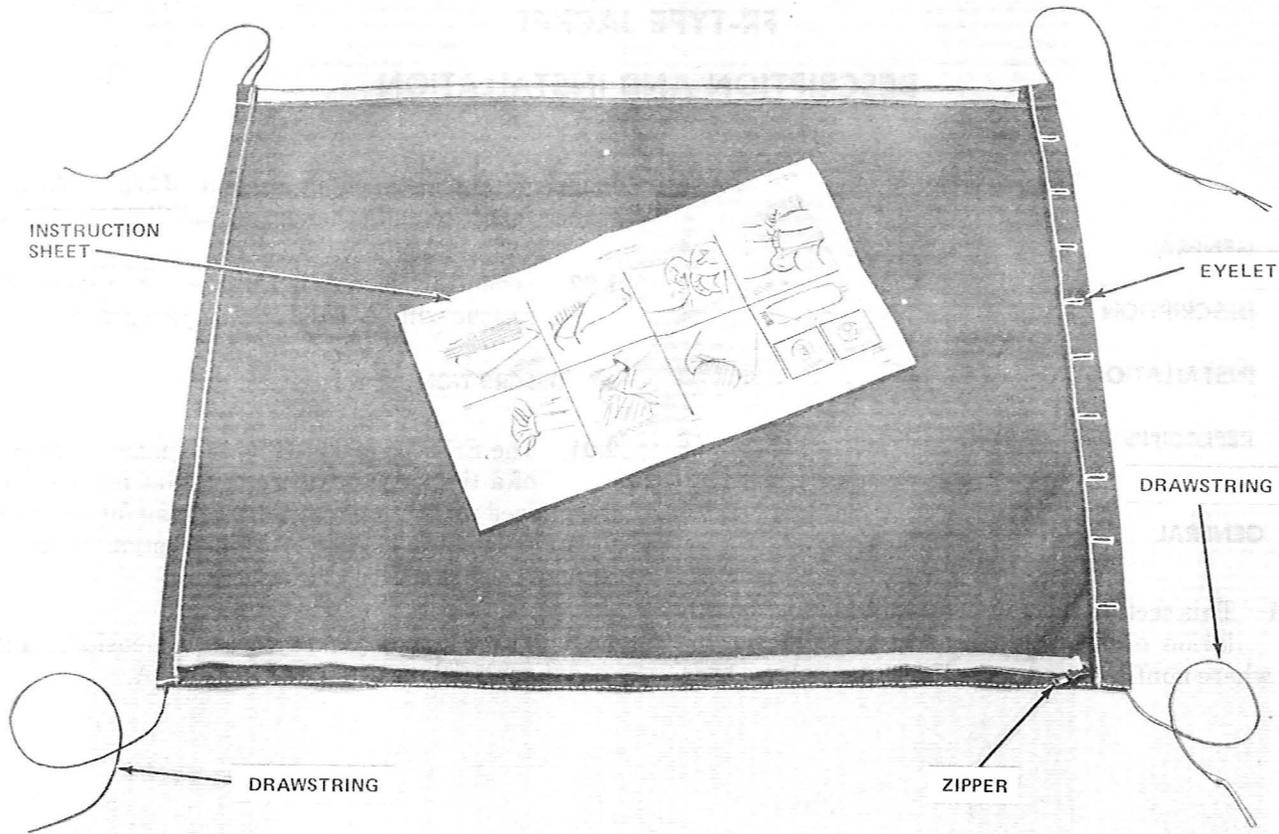

Fig. 1—Fire-Resistant Jacket
2.01 The FR-type jacket (Fig. 1) is made of layers of a tightly woven, fire-resistant material. It is equipped with a zipper and drawstring for securing to an assembled closure. An instruction sheet is shipped with the FR-type jacket.